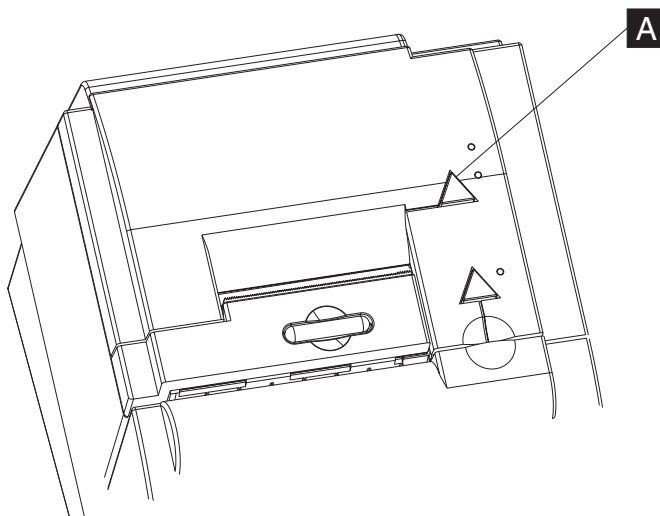

Figure 24. Paper feed and document feed buttons
1. Power on the printer while pressing the paper feed button (**A** in Figure 24) . The following off-line selection menu is printed. See Figure 25.
Resetting the printer and the document sensor threshold: To reset the printer, open and close the paper door by pressing the paper release button (**C** in Figure 24 on page 32). This action also resets the document sensor threshold setting.
1. Press and hold both the paper feed and document feed buttons (**A** and **B** in Figure 24 on page 32) to enter offline mode
1. Press and hold both the paper feed and document feed buttons (**A** and **B** in Figure 24 on page 32) buttons to enter offline mode.